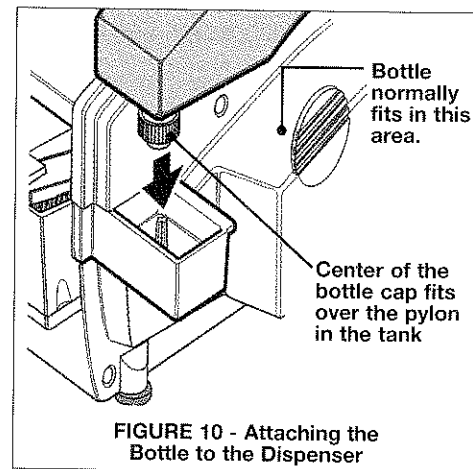

FIGURE 10 - Attaching the Bottle to the Dispenser
5. Position the bottle onto the right side of the dispenser. The spring-loaded center of the bottle's cap must be on the pylon protruding up from the water tank. See *Figure 10*.